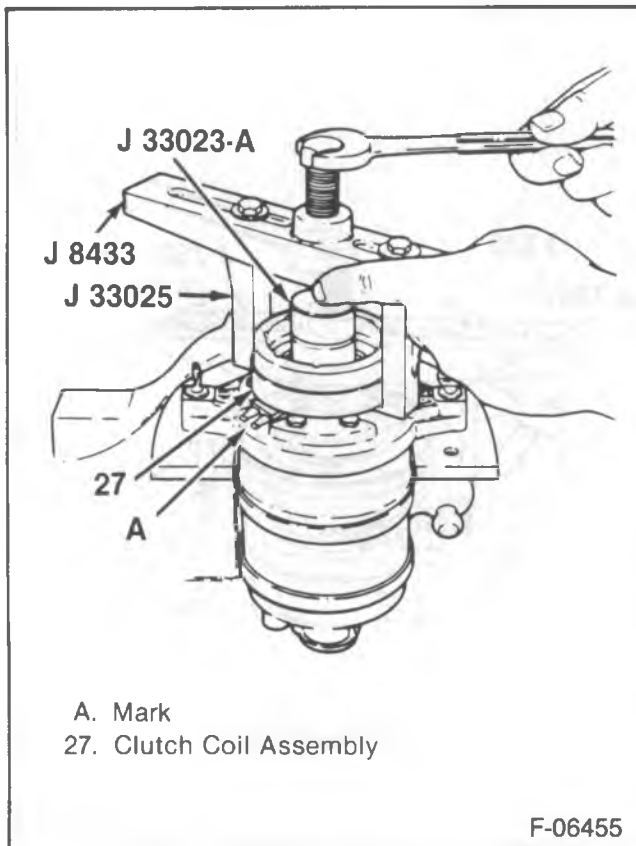

Figure 16—Removing the Clutch Coil Assembly
1. Clutch plate and hub assembly (22).
2. Pulley (26).
- Mark or scribe the location of the clutch coil (27) terminal on the compressor front head (33).
3. Clutch coil assembly (27).
- Install J 33023-A on the head (33) of the compressor.
- Install J 8433-1 with J 33025 (figure 16).